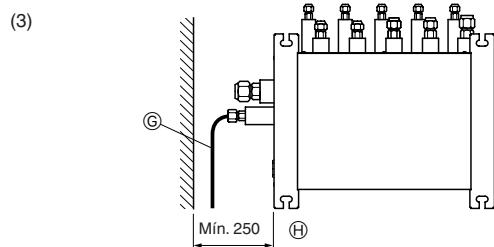

Fig. 4-7
#### (3) Vista superior (Fig. 4-7)